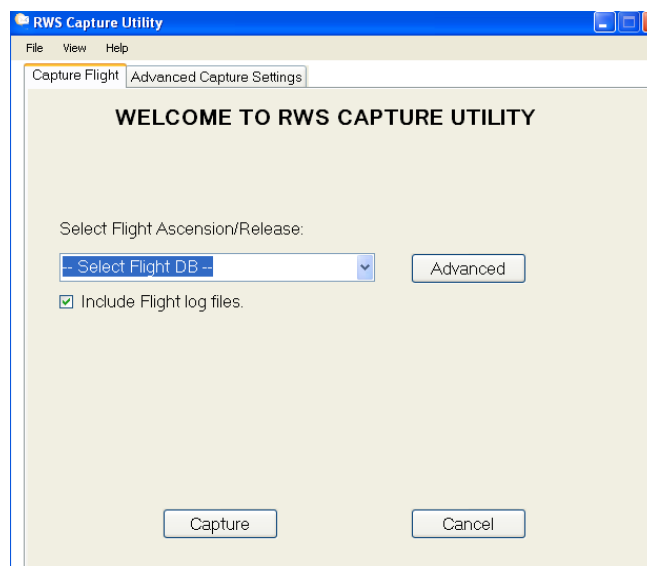

Figure A-25: RWS Capture Utility
2. Select the flight from the **RWS Capture Utility** pull-down menu (Figure A-25).